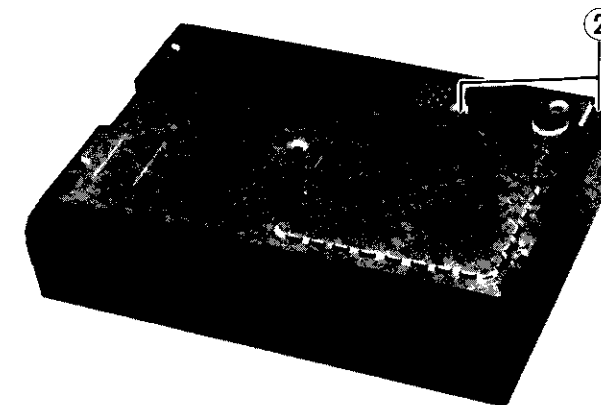

Fig. 5 Bottom Cover
4. Regulator Circuit Board (Figs. 5 and 6)